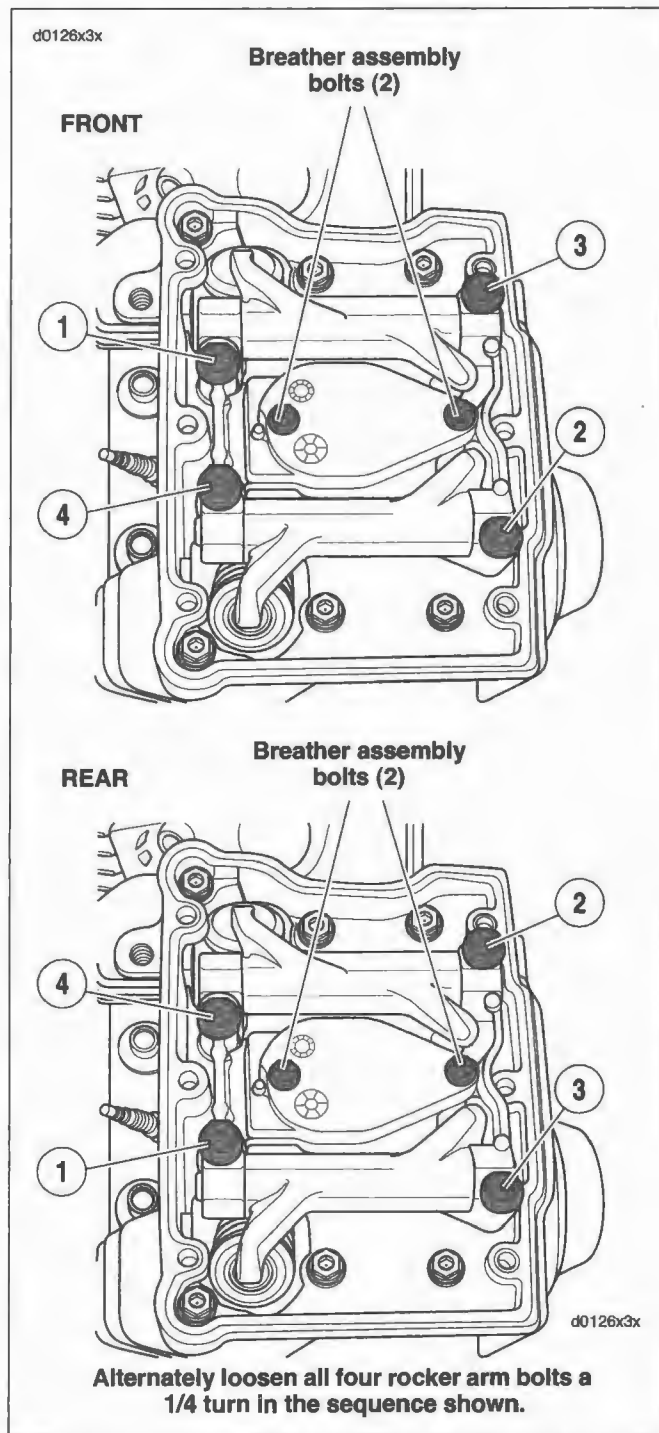

Figure 3-19. Breather Bolts and Rocker Arm Bolts
4. See Figure 3-19. Remove two bolts to release breather assembly and filter element from the rocker arm support plate. See 3.20 BREATHER ASSEMBLY for inspection and repair information.
5. See Figure 3-19. Alternately loosen each of the four rocker arm support plate bolts just 1/4 turn. Continue turning the bolts in these increments until loose. Remove the rocker arm support plate bolts with flat washers.